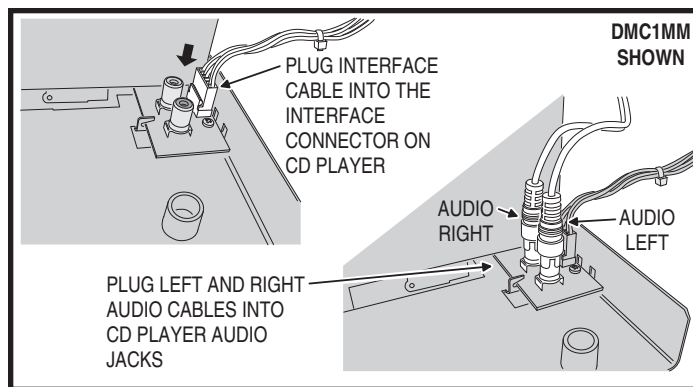

Figure 25. dmc1MM iPlay® Dock MP3 & CD Player Interface and Audio Cable Connection
9. Insert the CD Player interface cable into the INTERFACE connector on the CD Player (see Figure 25 or 27).
10. Insert the CD audio cable's BLACK RCA plug into the AUDIO LEFT jack on the CD Player, then insert the cable's RED RCA plug into the AUDIO RIGHT jack on the CD Player (see Figure 25 or 27).